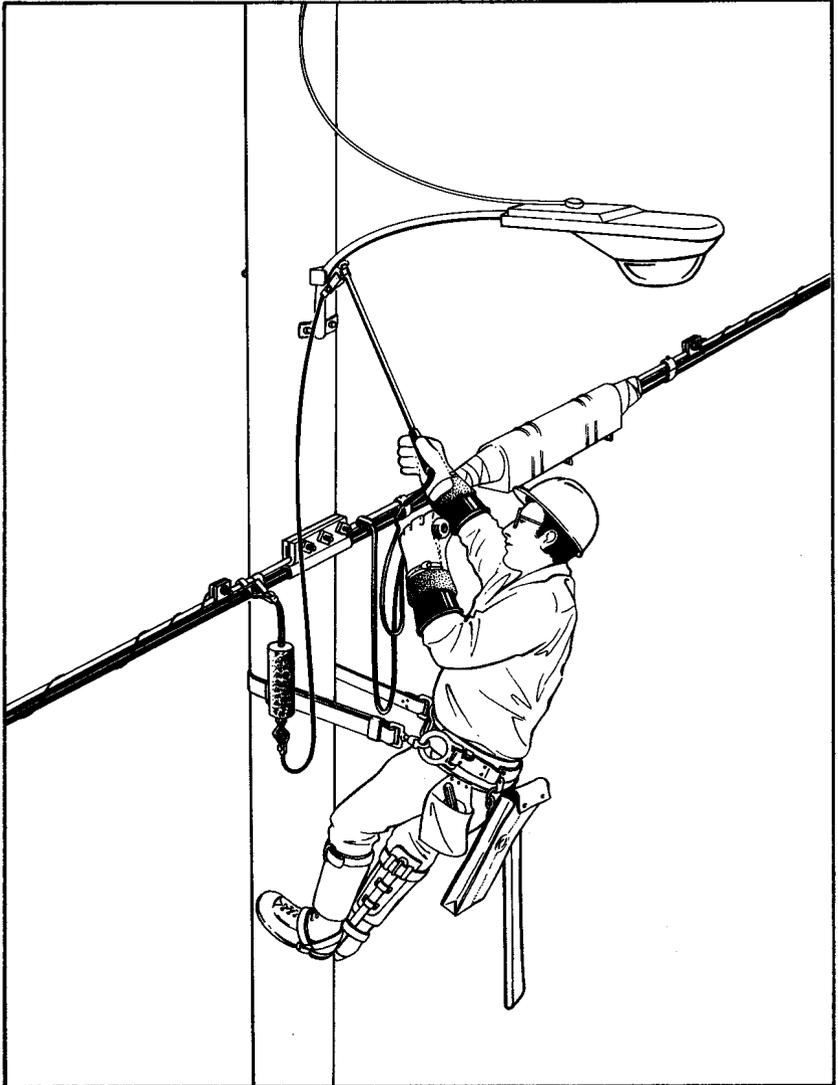

FIGURE 5.
c. Touch the toothed metal disk to the street light fixture and promptly look into the open end of the indicator assembly (Figure 5).